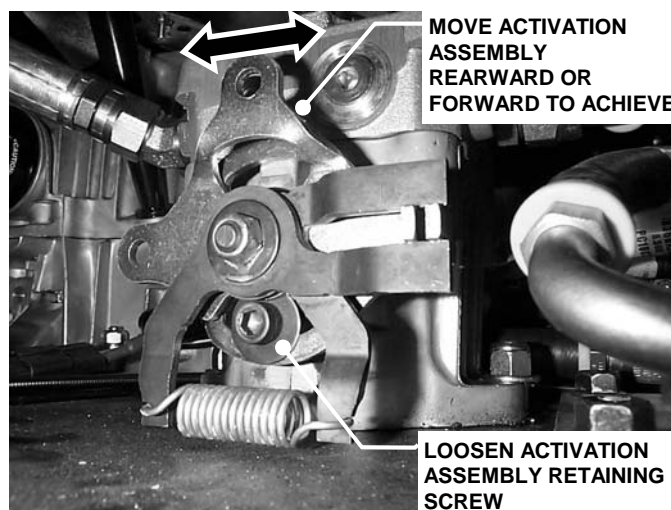

FIGURE 5.3
10. If wheel(s) are rotating, loosen the hydro pump activation assembly retaining screw. Move activation assembly forward or rearward to stop rotation of wheel. Retighten retaining screw. Repeat this step for other hydro pump. See Figure 5.3.